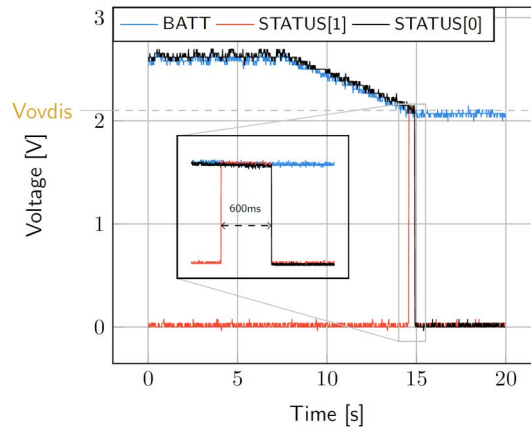

Figure 5: LDOs disabled around 600 ms after **BATT** reaches V_{OVDIS}
- **BATT**: voltage decreases as the system consumes the power accumulated in the storage element. The voltage remains stable after crossing V_{OVDIS} (see Figure 5).
- **STATUS[0]**: de-asserted when the LDOs are no longer available as the storage element is running out of energy. This happens 600 ms after **STATUS[1]** assertion (see Figure 5).
- **STATUS[1]**: asserted for 600ms when the storage element voltage (**BATT**) falls below V_{OVDIS} (see Figure 5).